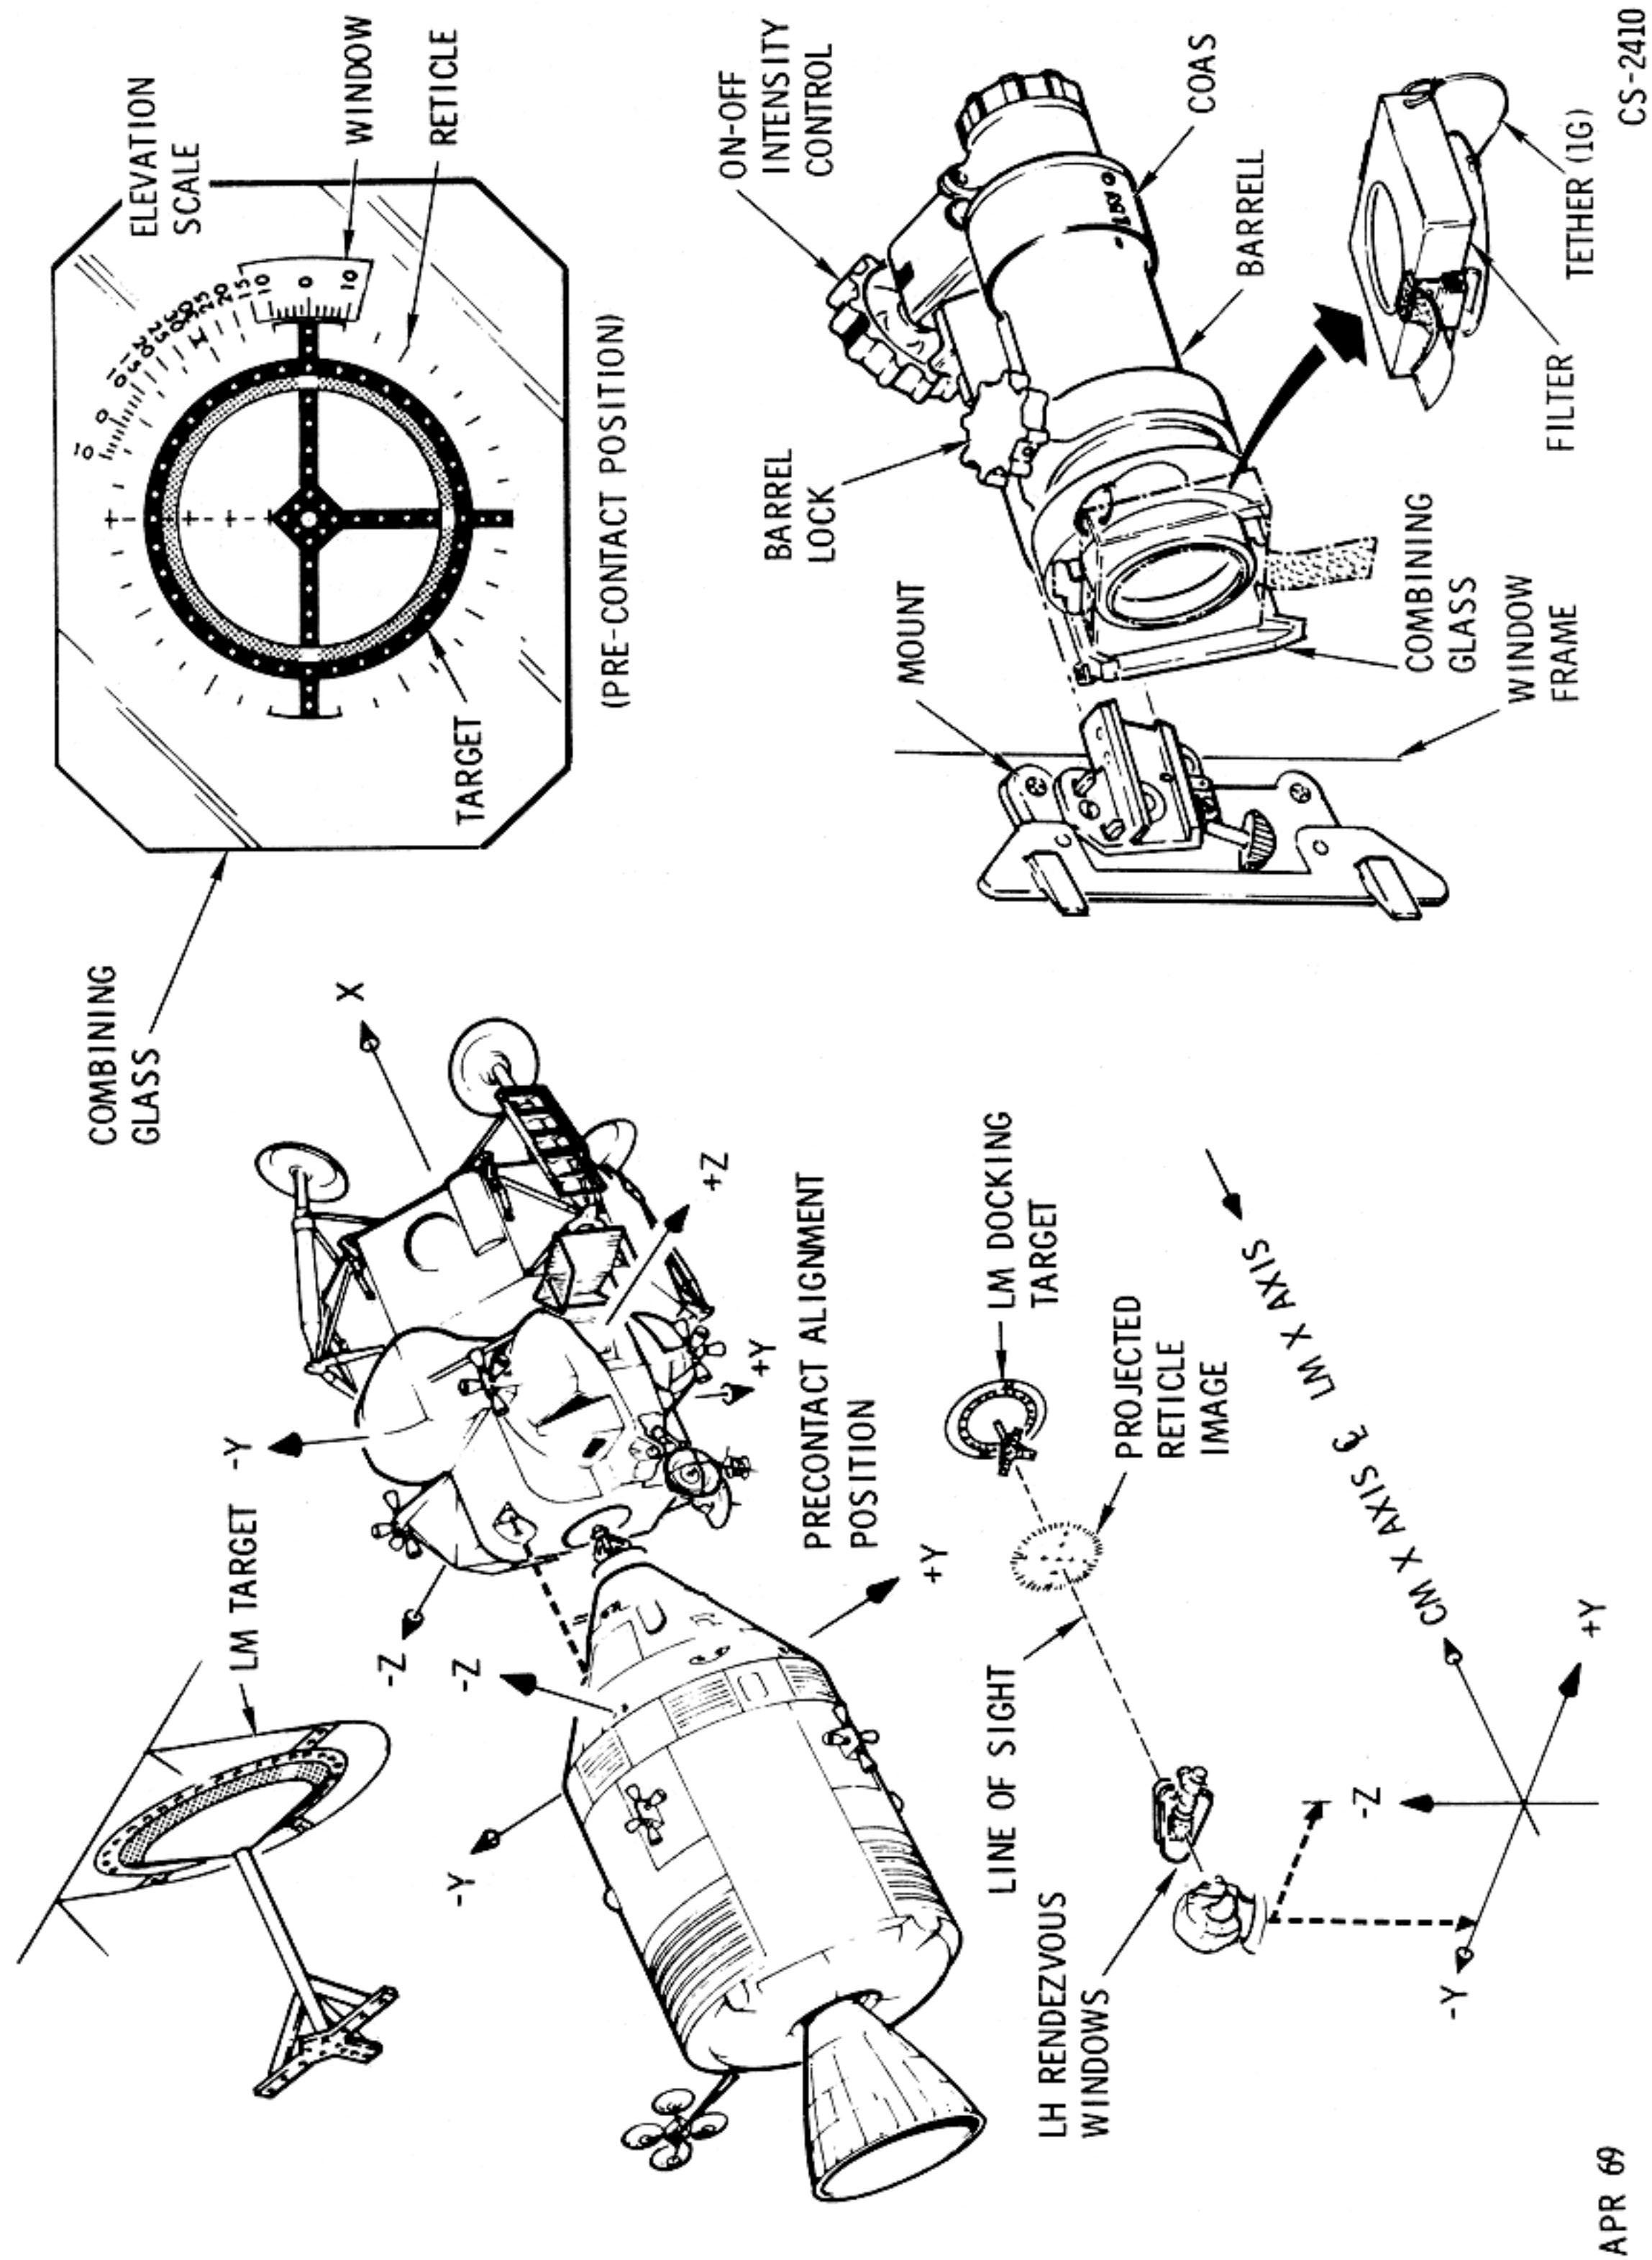

Figure 2.12-20. Crewman Optical Alignment Sight System
2.12.4.1.3 Crewman Optical Alignment Sight (COAS) (Figure 2.12-20).
COAS Description. The crewman optical alignment sight (COAS) is a collimator device, similar to the aircraft gunsight, weighing approximately 1-1/2 pounds, is 8 inches long and requires a 28-vdc power source. The COAS consists of a lamp with an intensity control, reticle, barrel-shaped housing, mount, combiner assembly, filter, and a power receptacle. The reticle consists of a 10-degree circle (figure 2.12-20), vertical and horizontal cross hairs with 1-degree marks, and an elevation scale (on the side) of -10 to +31.5 degrees. The elevation scale is seen through an opening or window.